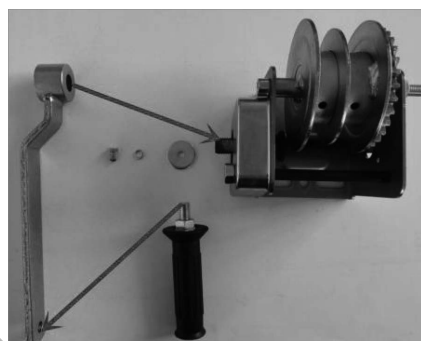

Figure 3
3. Attach the handle to the cradle (Figure 3):